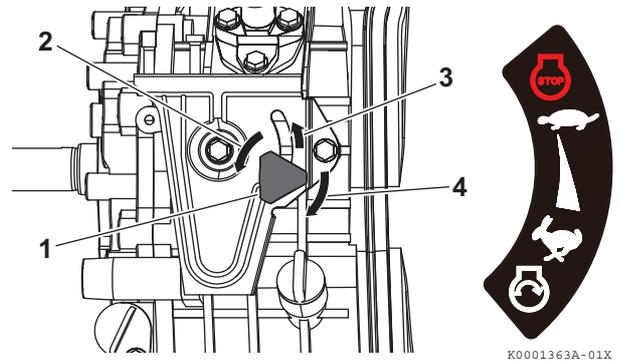

Figure 20
3. If your engine speed control is similar to **Figure 20**:
- Turn the engine speed control knob (**Figure 20, (1)**) to the left (**Figure 20, (2)**).
- Slide the engine speed control knob to the STOP position (**Figure 20, (3)**).
- Turn the engine speed control knob to the right (**Figure 20, (4)**) to tighten it.